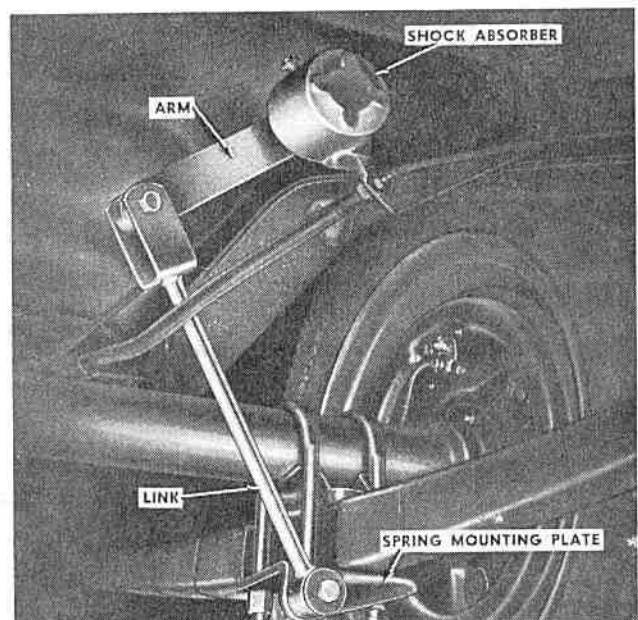

FIG. 358
**COMMANDER** The rear shock absorbers on the 15A Commander and Commander Land Cruiser are mounted at right angles to the frame, which allows the shock absorber links to extend from the shock absorber arms to the spring mounting plates at an angle of approximately 45° (see Fig. 358).